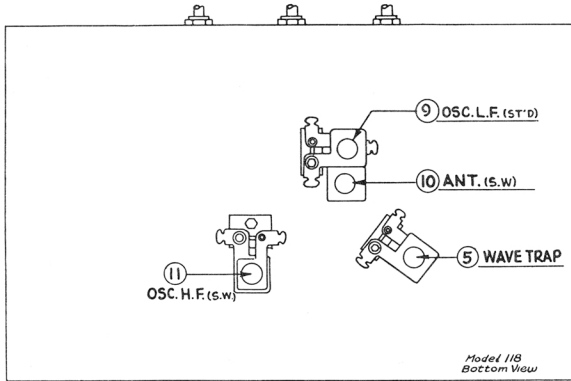

Fig. 24
condenser (⑤ in Fig. 24) so as to get MINIMUM reading in output meter. This adjustment is made from underneath the chassis.
This is condenser ⑨ (see Fig. 24) located underneath chassis and accessible from underneath. Use the fibre wrench. Set signal generator